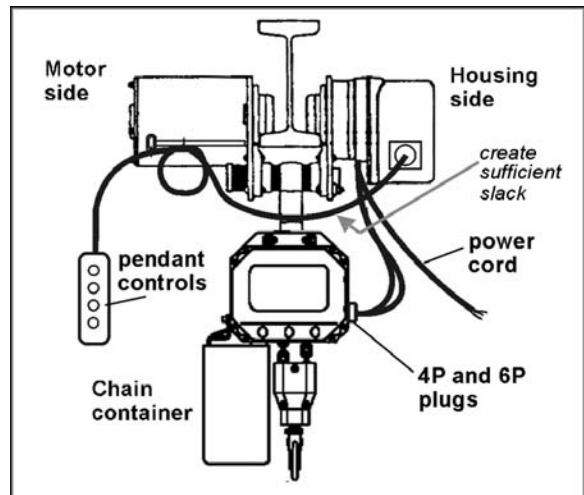

Figure 6
4. Create sufficient slack in the pendant cord where it passes under the I-beam (Figure 6) so that the cord will not rub against the beam.
1. Hang the hoist on the trolley hanger, using hook or lug mount. (See page 8 for instructions on installing the optional lug mount.) The hoist should be positioned so that the electrical socket on the trolley is on the same side as the sockets on the hoist, as shown in Figure 6.